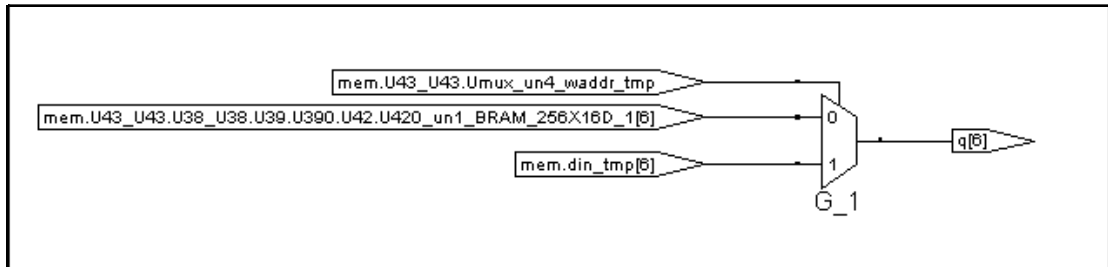

Figure 14: Gate-level view of Level 4, read/write address compare output ANDed with the write enable (after pushing down into LUT3_CA).
- Level 4 in in the above figure is LUT3_CA. This stage contains the MUX that controls the output of the RAM data shown in the figure [Figure 14: Gate-level view of Level 4, read/write address compare output ANDed with the write enable \(after pushing down into LUT3_CA\). on page 16](#).